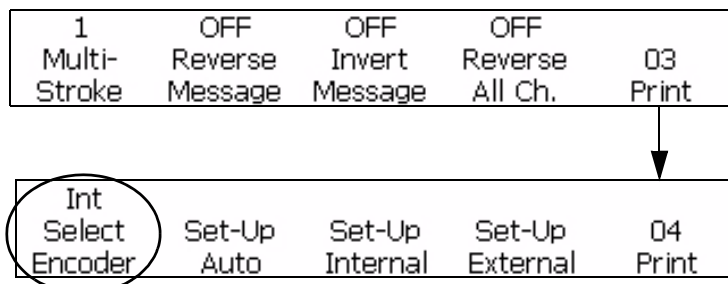

Figure 4-30: Internal Shaft Encoder
- 1 Navigate to 01 Edit > 02 Edit > 03 Edit > 04 Edit - Print Set -Up > 01 Print > 02 Print > 03 Print > 04 Print - Select Encoder (see Figure 4-30 on page 4-25).
- 13** Navigate to 01 Edit > 02 Edit > 03 Edit > 04 Edit - Print Set -Up > 01 Print > 02 Print > 03 Print > 04 Print - Select Encoder (see Figure 4-30 on page 4-25). Set <Select Encoder> to <Int>.